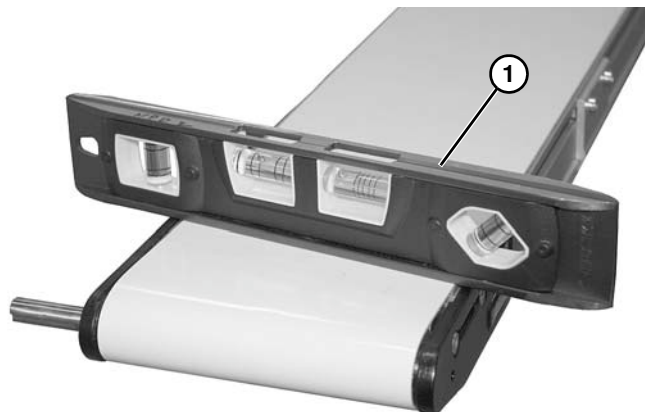

Figure 4
Conveyor **MUST** be mounted straight, flat, and level within confines of conveyor. Use a level (**Figure 4, item 1**) for setup.